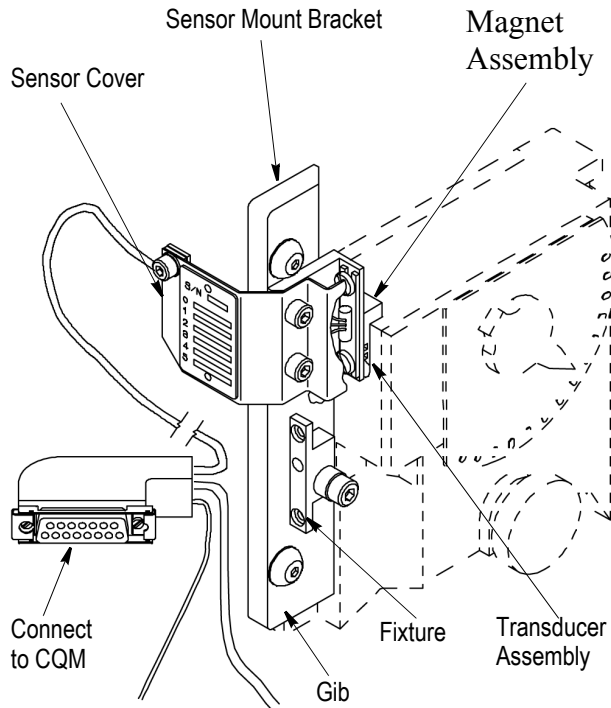

Figure 3
3.3. Installing Position Sensor Kit (Figure 3)
5. Tighten the sensor bracket mounting screws. Remove the fixture and fasten it to the gib as shown in Figure 3. Fasten the sensor magnet with the chamfered edges down in the ram cavity. (You may hand cycle the ram up to install the sensor magnet.)
5. Remove the fixture and store it on the gib as shown in Figure 3.